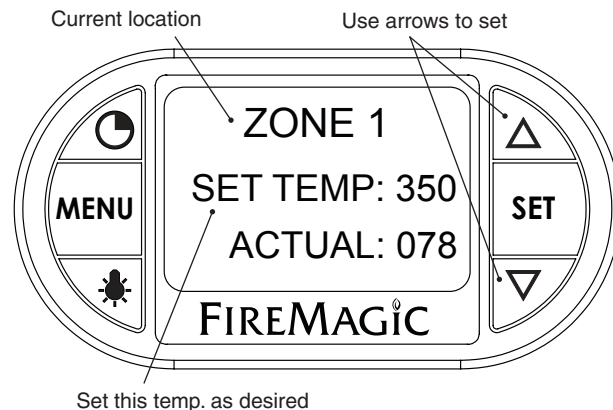

Fig. 30-1 Area temp. screen (zone 1 shown)
2. The selected location's temperature screen will be displayed. Use the arrows to set the desired temp. The actual temp. will also be shown. See Fig. 30-1.